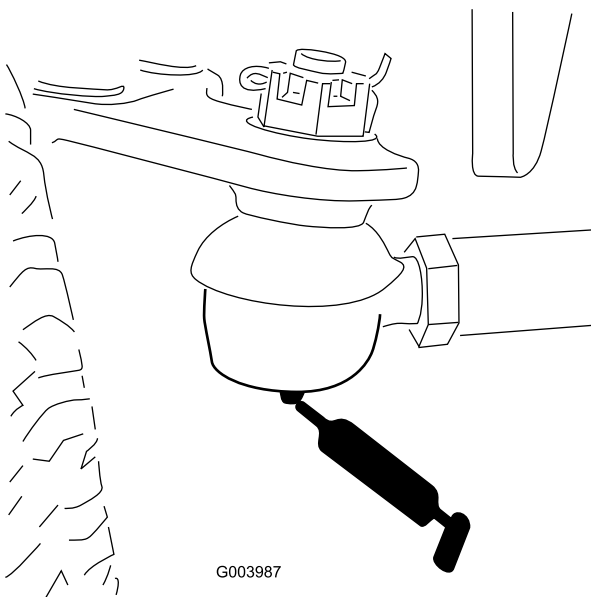

Figure 46
- Rear axle tie rod (2) (Figure 46)